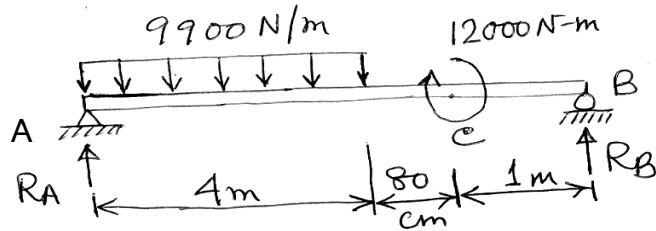

Fig. 6
4. (a) Draw the S.F. and B.M. diagrams and determine the maximum shearing force and bending moment in the simply supported beam as shown in Fig. 6. 12